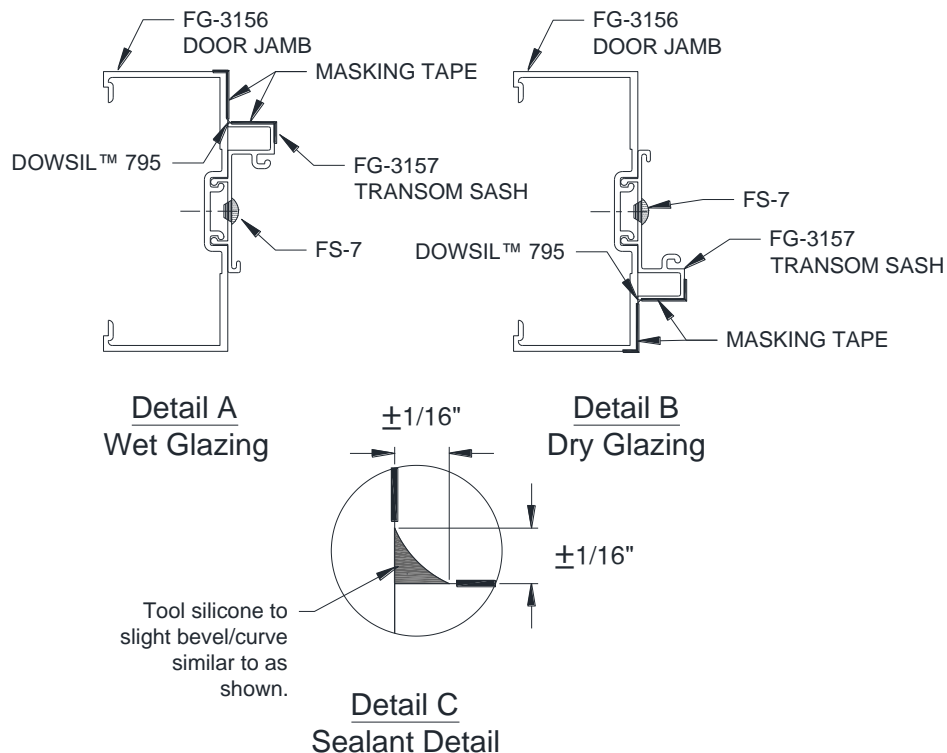

Figure 20: Sealing Transom Sash for ArmorDefend™
- 8.3 Mask off Transom Sash and Door Jamb with with 1" wide (minimum) low-adhesion masking tape. Reference *Figure 20, Detail A and Detail B*, for masking tape application location.
- 8.4 Apply a thin bead of **DOWSIL™ 795** or equivalent sealant to the joint, taking care not to leave any voids or air bubbles. Immediately tool, creating a smooth and finished joint, *Figure 20, Detail C*.